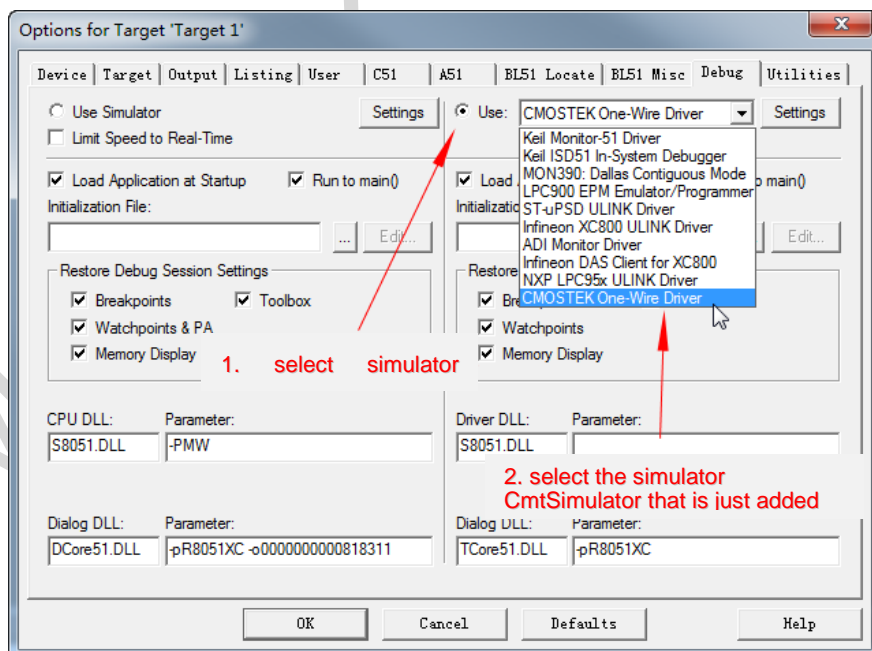

Figure 18. Select CmtSimulator Simulator
- Step 5, click the *settings* button on the right side as shown in Figure 18, the setting window pops up as shown in the below figure.